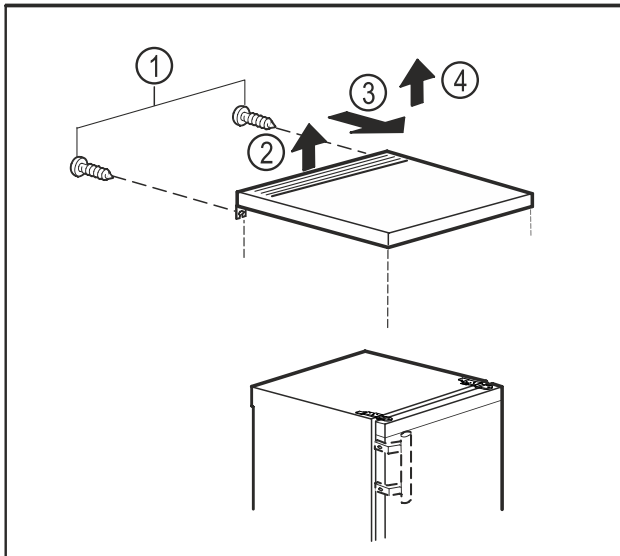

Fig. 10
- ▶ Remove the screws on the rear side. Fig. 10 (1)
- ▶ Raise the table top at the back. Fig. 10 (2)
- ▶ Push the table top forwards. Fig. 10 (3)
- ▶ Remove the table top upwards. Fig. 10 (4)